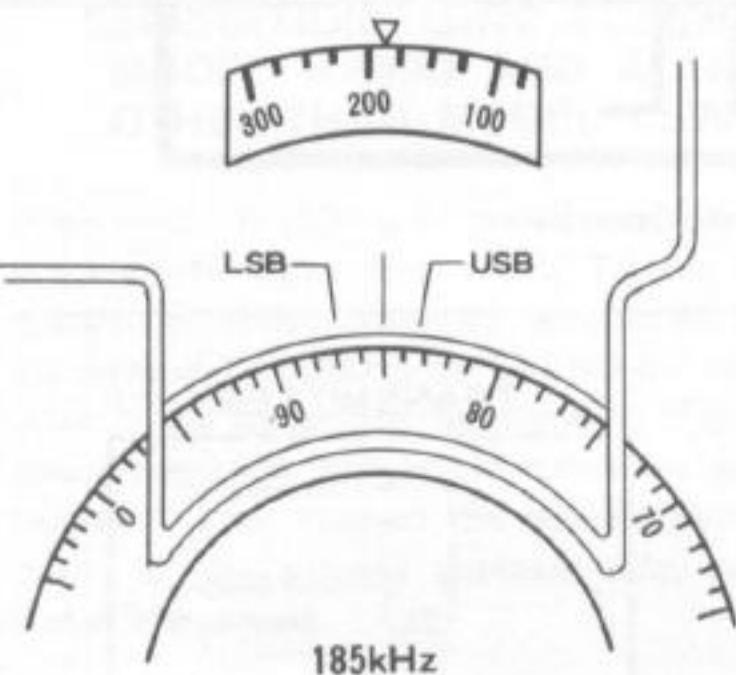

Fig. 5 Frequency Readout
- (7) Finely tune the receiver to the receiving signal by tuning the RIT control, which varies the VFO frequency just a little. Hence, it is possible for the user to catch two different signals momentarily by operating the RIT control as follows: Pull the RF GAIN control towards you to disable the RIT control. Catch a certain incoming signal using the main tuning dial. Depress the RF GAIN control to restore the RIT control to its normal condition. Then, catch another incoming signal by operating the RIT control. These steps make it possible for the user to catch the above-mentioned signals momentarily by pulling and depressing the RF GAIN control to turn the RIT control off and on.
- (8) The MODE switch should be placed in an appropriate position depending on the type of emission used in the partner station. But, it is a general practice to use the LSB position for the SSB signal lower than 7 MHz and the USB for the signal higher than 14 MHz. Switch position AM.N is provided for reception of the AM signal under extraordinary heavy noises. Placing the MODE switch in the AM.N position inserts a noise limiter in the receiver circuit at the output side of AM detector, thereby limiting the noise level. In the FM position, the switch inserts the FM detector in the receiver circuit for reception of the FM signal. In this case, however, place the SELECTIVITY switch in either AUTO or 25 kHz position because the FM signal generally features a wider band width.
- (9) Reading a receiving frequency. The main tuning dial is graduated in 1 kHz steps for a total of 100 kHz in one complete revolution. Receiving frequency is read off as the sum of readings on the sub-dial scale and main tuning dial. For example, in Fig. 5 the receiver is tuned to 185 kHz plus the frequency of the BAND SELECTOR position to which the receiver is set. Therefore, if it is in the 14 MHz band, the total reading is 14.185 MHz. There are three reference index on the scale: Use the central red index for CW, AM and FM of the MODE switch; in USB, the right-hand side USB index; and in LSB, the LSB index.
- (10) To calibrate the main-dial scale, proceed as follows using the calibration signals provided by the calibrator circuits self-contained. Set the FUNCTION switch to the 25 kHz CAL position and the MODE switch to the CW position. Slowly turn the main tuning dial and you will hear the beat tones